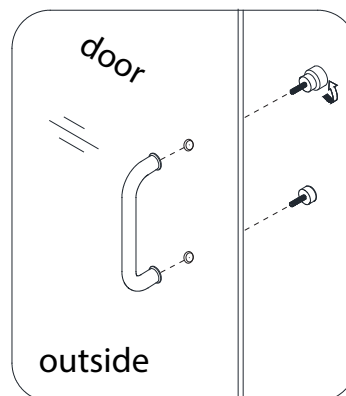

**Fig 17**
**17.** Attach the **Handle (#13)** to the **Door Glass (#17)**. (Fig 17)